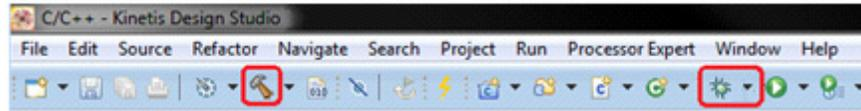

Figure 15. Compile and debug
To compile a project, click the compile icon in the toolbar (see Figure 15).
1. Click the arrow next to the debug icon in the toolbar and select **Debug Configurations...** (see Figure 15).